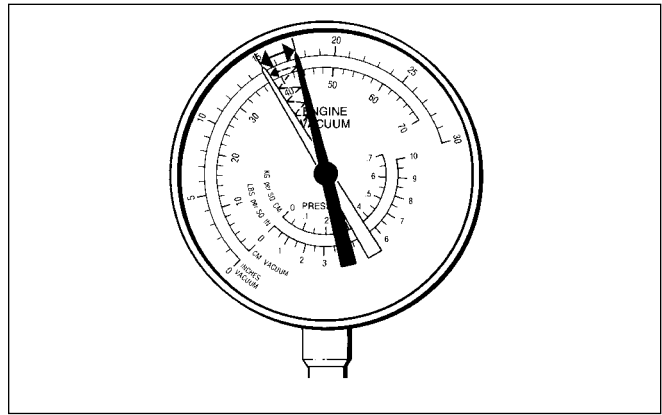

Fig. 1-13. Sticking valve. Needle drops irregularly below normal.
- An irregular drop of 1 or 2 inches from a normal reading indicates sticking valves, figure 1-13